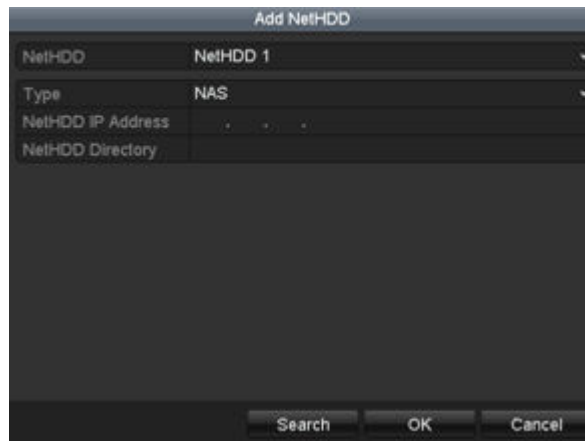

Figure 14-7 HDD Information Interface
Step 2 Click the **Add** button to enter the **Add NetHDD** interface, as shown in Figure 14-7.